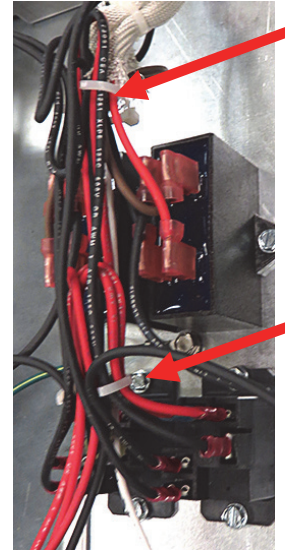

Figure 8
9. Cut the two (2) zip ties securing the wires (see Figure 8).